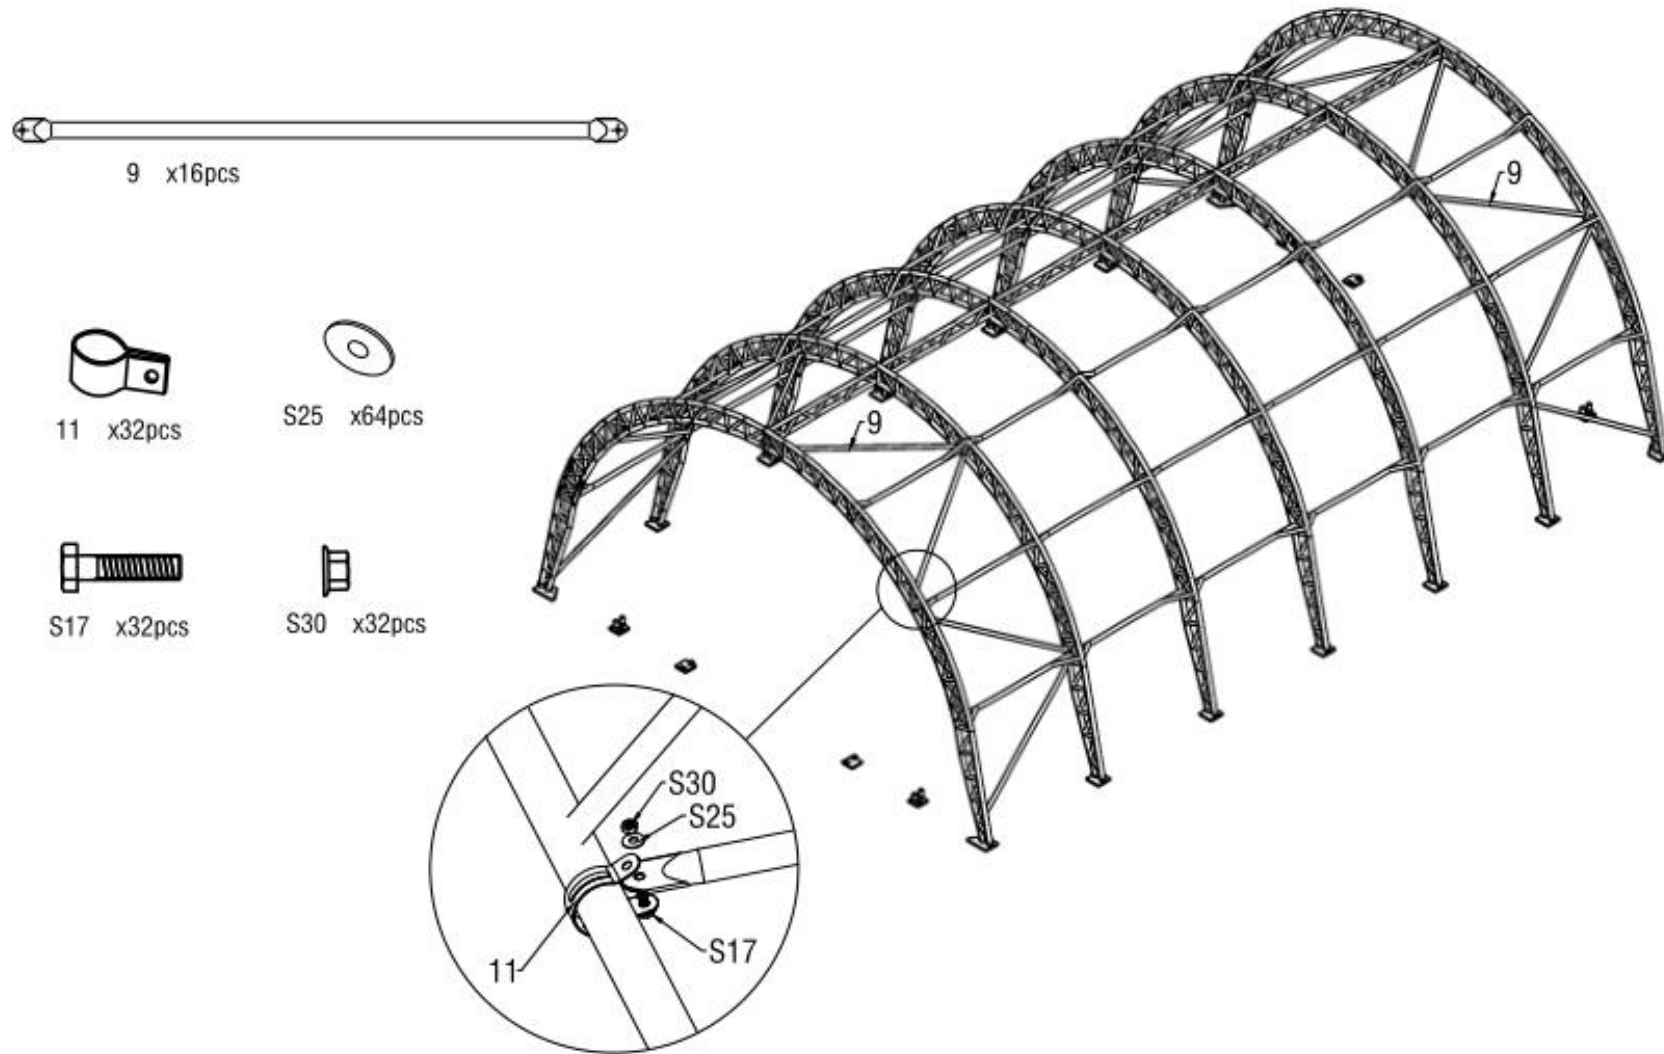

Figure 10
6. As figure 10 shown to find Diagonal Support Female Tube(No.9) and Diagonal Support Male Tube(No.9A) and assemble every group support tube with Carriage bolt M8x60(No.S7) and flange nut M8(No.S29). Then connect the diagonal support tube to arch by using clip(No.11).